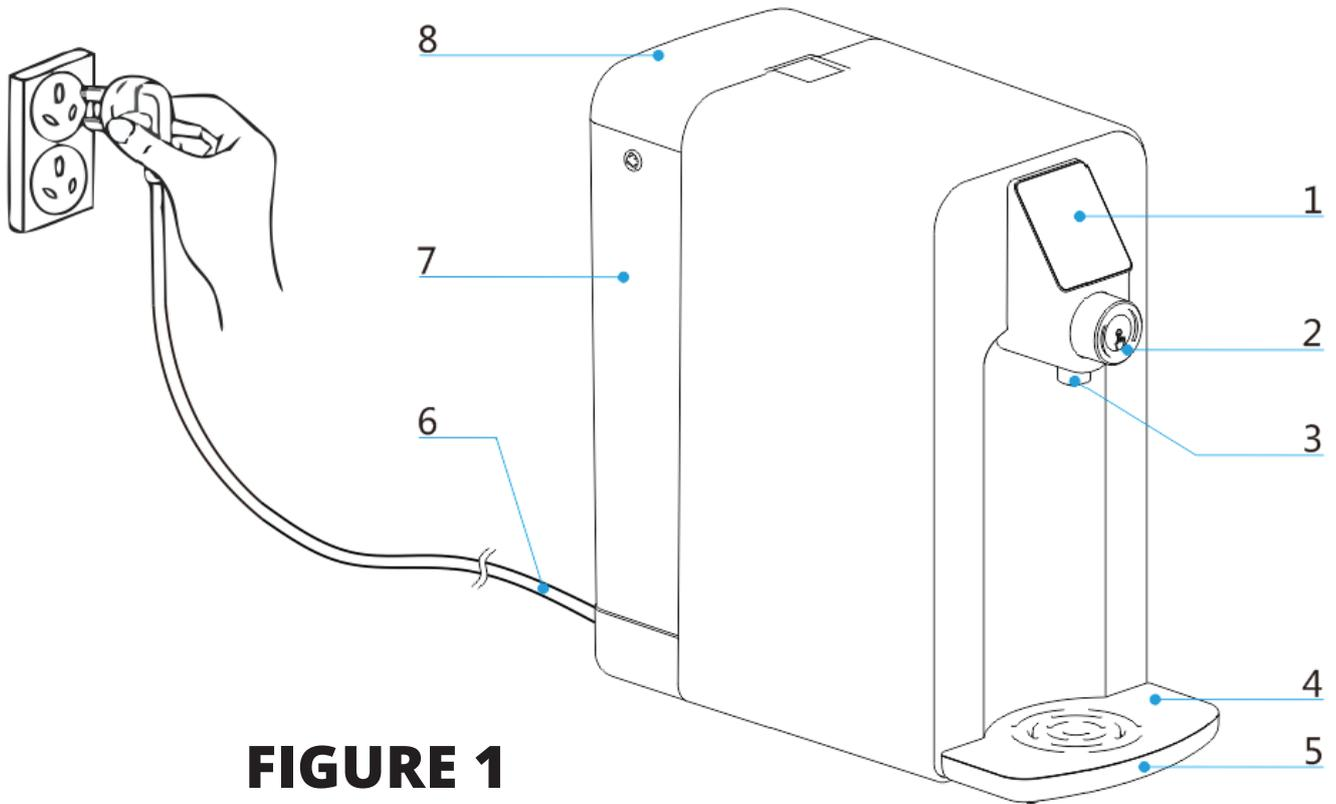

FIGURE 1
- Insert the power plug into the socket (see Figure 1). The system will beep and light up which indicates the machine is ready to use.
- Place the water container on the tray (see Figure 1). Rotate the knob to select the desired water temperature (Figure 5), and then click on (or push on for 3 second) the middle part of the knob (see Figure 6) to dispense one cup (or bottle) of water. Click the knob again if you want to stop getting water. Note: the system will automatically stop water after 30 seconds if you do not click the knob and will automatically stop after 60 seconds if you hold the button for 3 seconds.